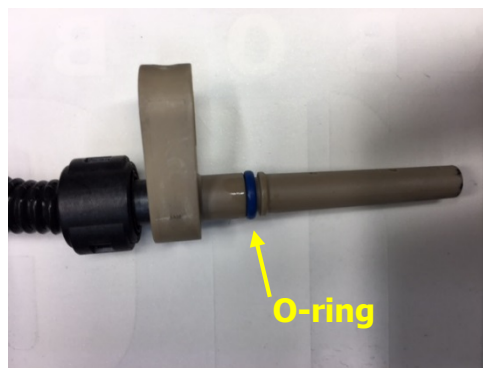

Fig. 15
15. Locate your new G-series speed sensor 873148-0010 from G-Series Speed Sensor Kit. Apply a light coat of oil on O-ring located on the speed sensor body. (Fig. 15)